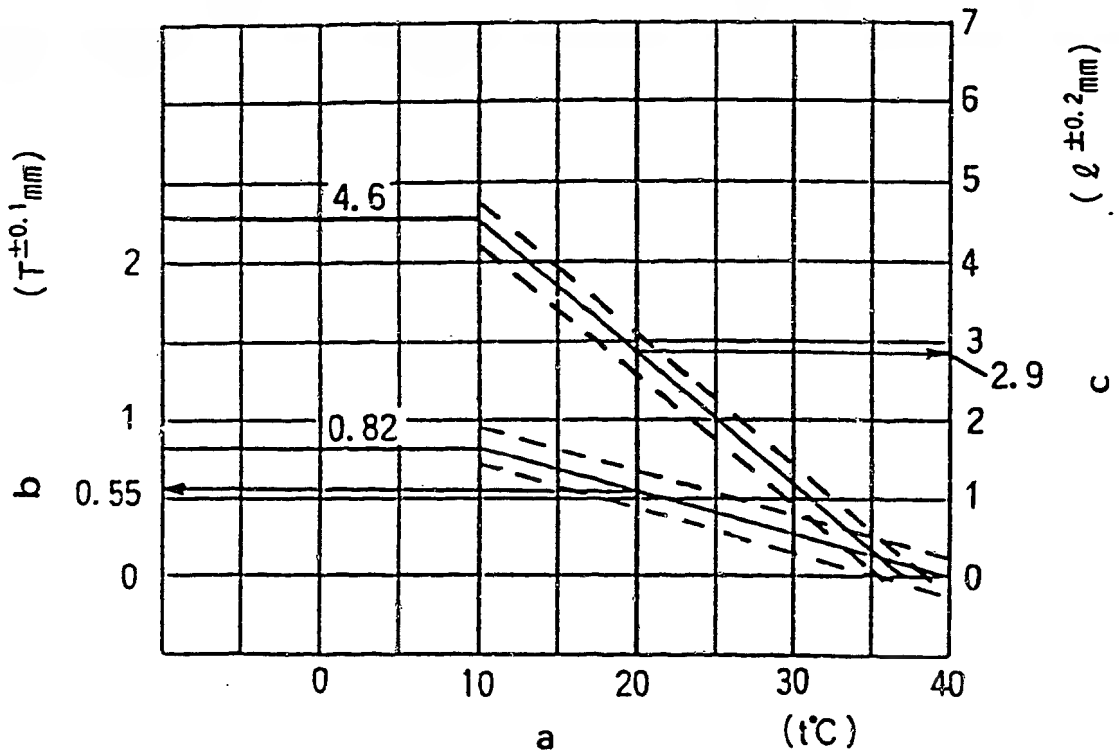

Figure 19
- 1) Calculate the timer stroke from Fig. 19 (diagram) according to the atmospheric temperature at the time of adjustment.
- 1) Calculate the block gauge dimension $l \pm 0.05$ mm from (Fig. 19) according to the atmospheric temperature at the time of adjustment.
- 2) Insert the block gauge (thickness gauge) (selected in Fig. 19) between the bracket and the idling stopper bolt.